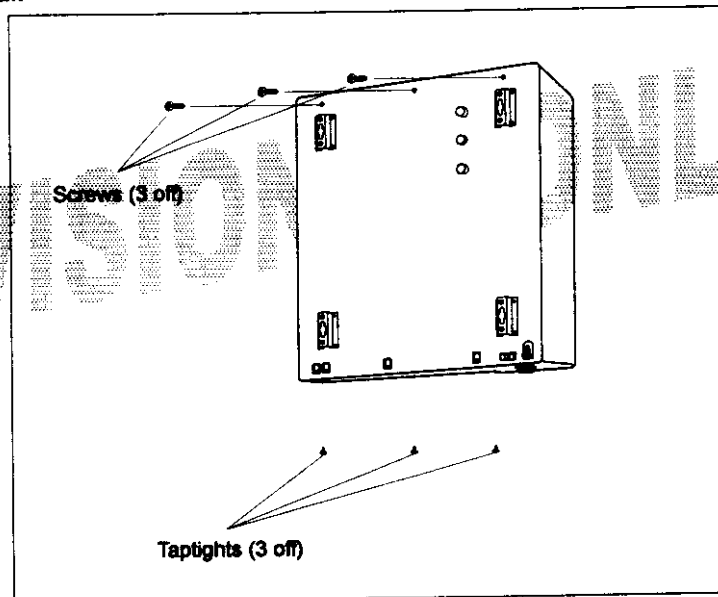

Figure 3.13: Wall Mount Cover Removal
- 2 Identify the three taptights inserted into the cover through the terminal chassis. They are located near the connectors on the terminal (see Figure 3.13). Remove the taptights and their associated washers, and store them in a safe place.
- 3 Remove the three screws located at the top of the chassis and store them in a safe place, separately from the screws removed in (2).